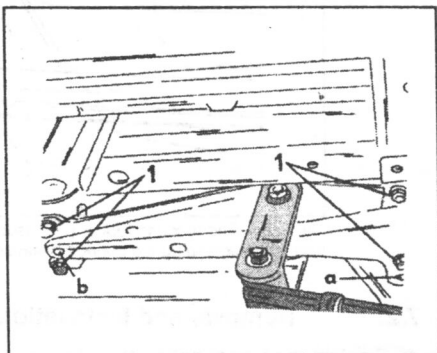

Fig. 7.5. — The rear spring mounting bracket must be centred before tightening the bolts (1). Bores "a" and "b" have different diameters.
- Locate the spring underneath the frame and fit the rear bracket with the spring shackle mounting in position on the chassis. The mounting bracket must be centred. In Fig. 7.5 you can see two bores "a" and "b". Two metal drifts are required to centre the holes in the bracket with the holes on the locating pad, but note: a drift of 16 mm diameter must be used for hole "a", a drift of 12 mm diameter must be used for hole "b". After the bracket is in the centred position, tighten the bolts (1) to 5.0 kgm (36 ft.lb.).
- Centre the mounting bracket as described during the installation of the rear springs, i.e. the bracket must be centred as shown in Fig. 7.5, utilising the centering bores "a" and "b" and suitable drifts. Tighten the bolts to 5.0 kgm (36 ft.lb.).